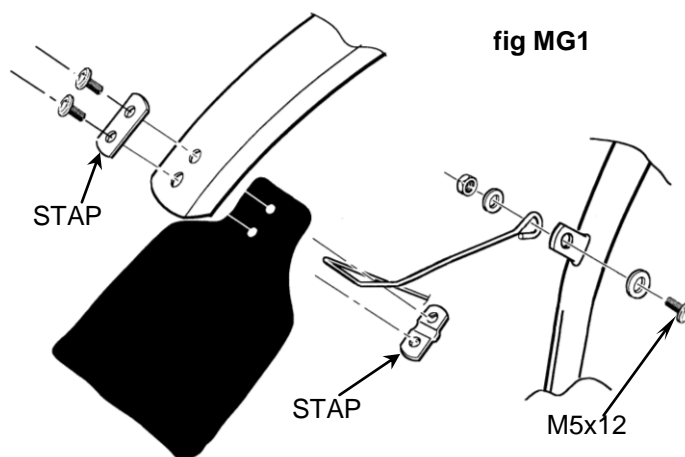

fig MG1
3. Fit the mudguard stay to the bracket on the RH fork, the M5x12 screw passing through: a washer, the brazed-on bracket, the stay, a washer, and into the nut, fig MG1. Do not secure firmly yet.